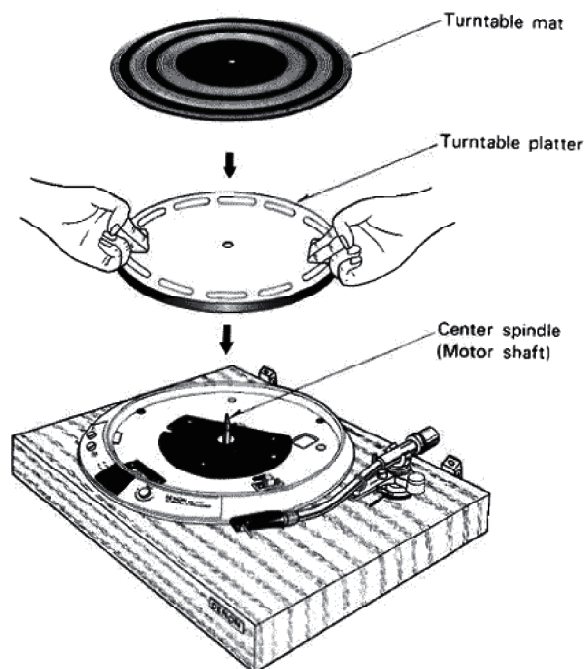

Fig. 1 Mounting the turntable
- 2) To attach the platter to the motor shaft, place your fingers through the two holes in the platter as shown in Fig. 1, and gently lower the platter onto the motor shaft. When removing the platter, hold it in the same manner and lift it straight up off the shaft.